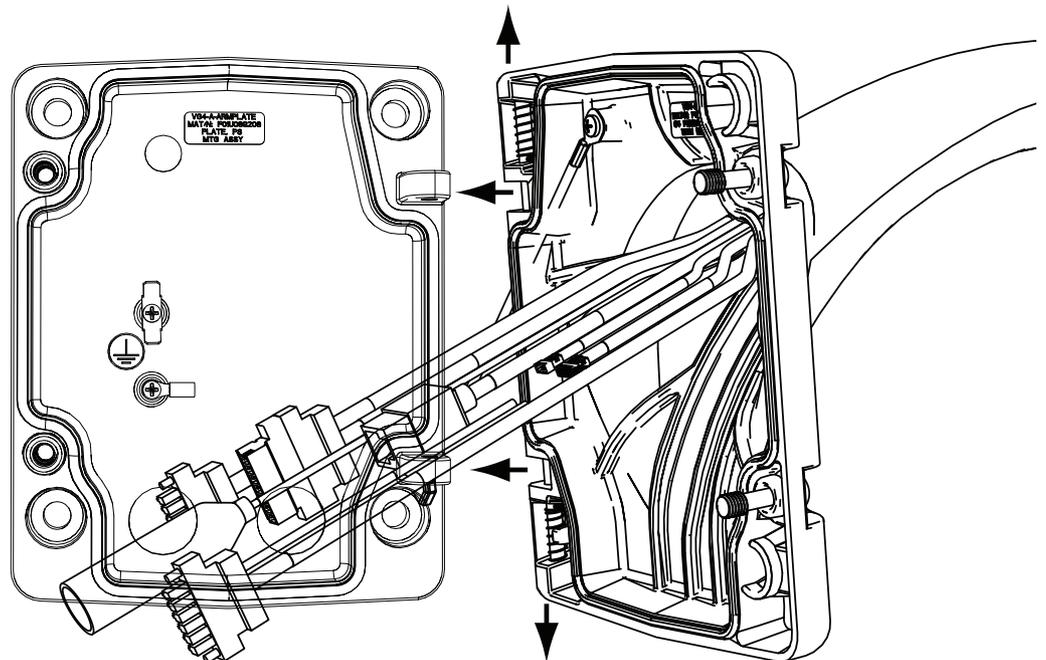

Figure 2.2 Connect Pendant Arm to Mounting Plate
3. While continuing to hold the top hinge pin open, align the top and bottom hinges of the Pendant Arm to their mating points on the Mounting Plate. Refer to *Figure 2.2*, above, for an illustration.